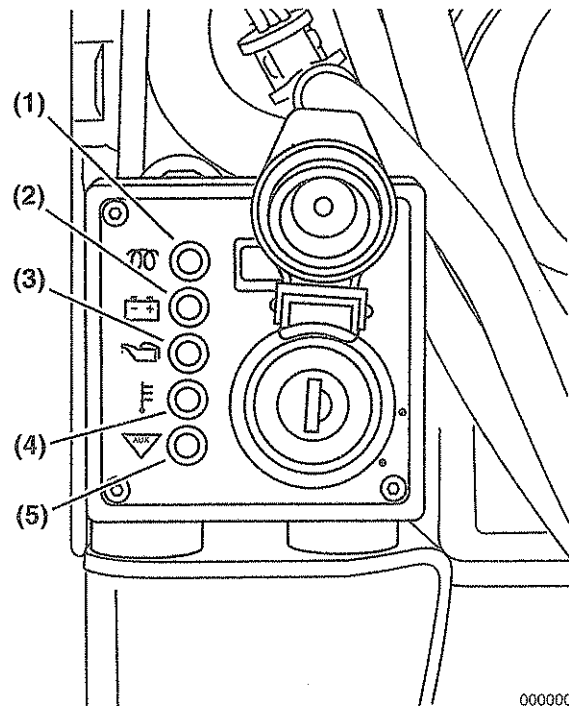
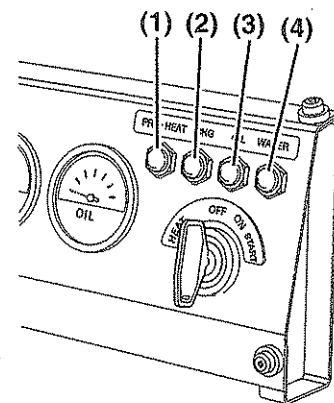
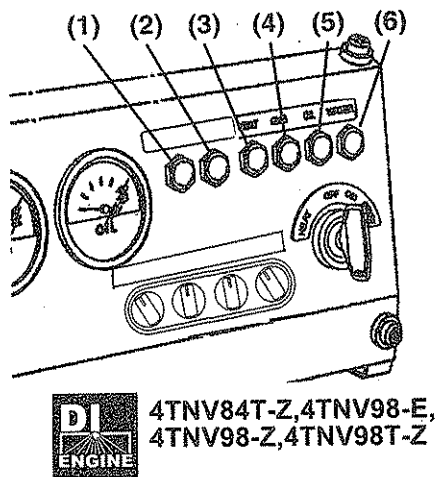

Figure 8
Figure 9
Figure 10
Yanmar TNV engines are available with various operator's consoles. Two typical operator's consoles are shown (**Figure 8**) or (**Figure 9**).
HEAT (Figure 8, (1)) or (Figure 9, (1)) or (Figure 10, (1)) - Figure 9 shows a typical indicator arrangement on the operator's console. When the key switch is turned to the HEAT position, the HEAT indicator comes on indicating the glow plugs or air heater are/is energized, and stays on for 4 sec. for IDI models with glow plugs or 15 sec. for DI models with glow plugs or air heater. When it goes out, turn the key switch to the START position to start the engine.
Figure 8 shows a typical operator's console having the optional key switch. When the optional key switch is turned to the ON position, the indicator comes on indicating the glow plugs or air heater are/is energized, and stays on for 4 sec. for IDI models with glow plugs or 15 sec. for DI models with glow plugs or air heater. When it goes out, turn the key switch to the START position to start the engine.
Figure 10 shows a typical indicator arrangement on the operator's console of electronically controlled engines. The key switch on the console is available in two types: standard and optional. While the standard type has the HEAT position, the optional type omits the HEAT position and has the ON-glow/ON-air heat capability. Consult the operation manual for the driven machine for the applicability of the key switch types.
Battery Charge (Figure 8, (2)) or (Figure 9, (2)) or (Figure 10, (4)) - Stays on until the engine is running and the alternator is supplying charging current. This indicator does not indicate whether the battery is discharged.
Engine Oil Pressure (Figure 8, (3)) or (Figure 9, (3)) or (Figure 10, (5)) - Stays on until the engine is running and the oil pressure is within normal limits.
Engine Coolant Temperature (Figure 8, (4)) or (Figure 9, (4)) or (Figure 10, (6)) - Stays on momentarily. Comes back on if engine overheats.
Auxiliary (Figure 8, (5)) or (Figure 10, (2)) - Stays on momentarily. Used for special applications.
Fault Indicator (Figure 10, (1)) (optional) - Illuminates for approx. 2 sec. when the key switch is turned to ON, and stays off while the engine is running. If a fault occurs in the Eco-governor system or during energization of the E-ECU, this indicator will flash in a certain pattern to indicate what fault has occurred. See the troubleshooting section for details.